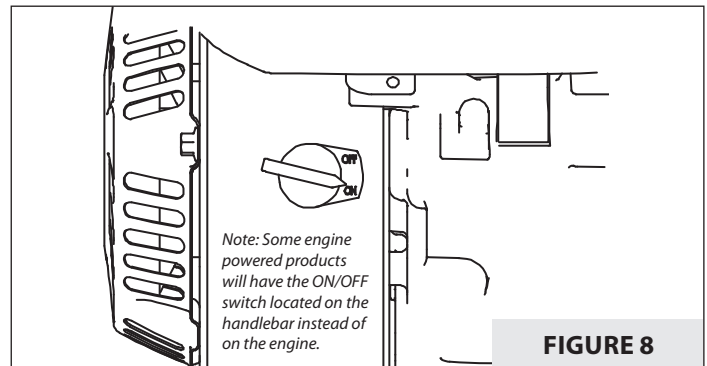

FIGURE 8
4. Turn the ON/OFF switch to the **ON** position. **SEE FIGURE 8.**